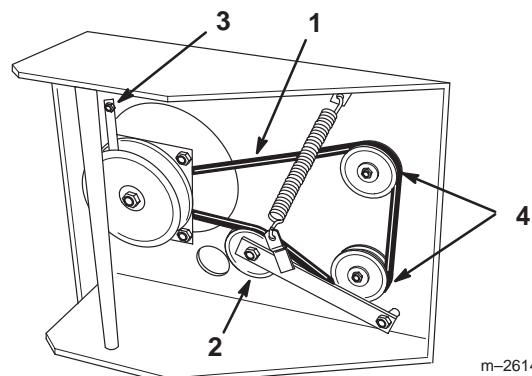

Figure 46
4. Remove left front engine mounting bolt securing clutch retainer to frame (Fig. 46). Unhook retainer from clutch and remove retainer.